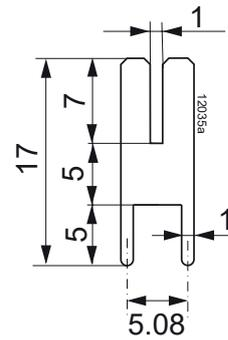

Fig. 14
- Solder-tags for direct mounting of the regulator to a PCB board; see fig. 14.